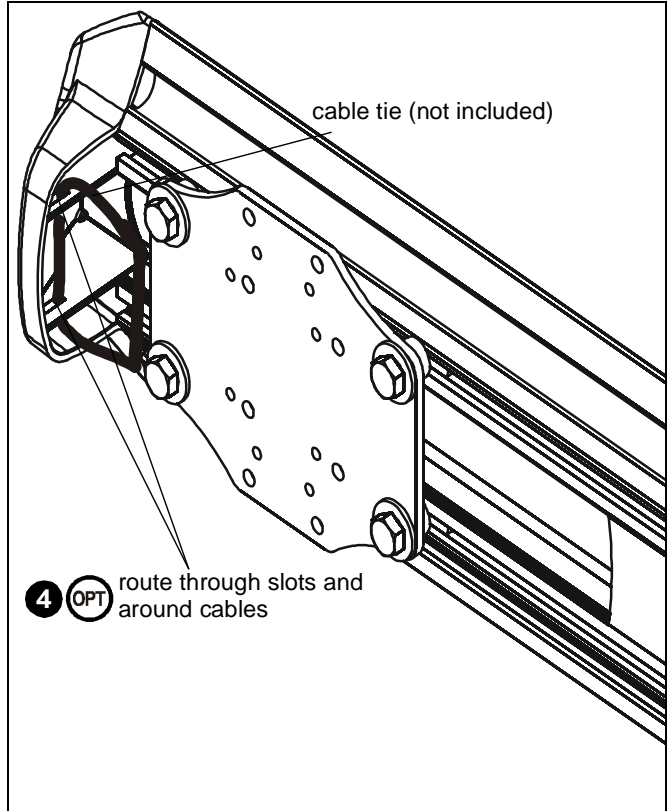

Figure 24
5. (Optional) Cables can be tied to inside of projector's front cover using cable ties (not included). Route cables near front cover and wrap cable tie through slots on front cover and around cables. (See Figure 24)